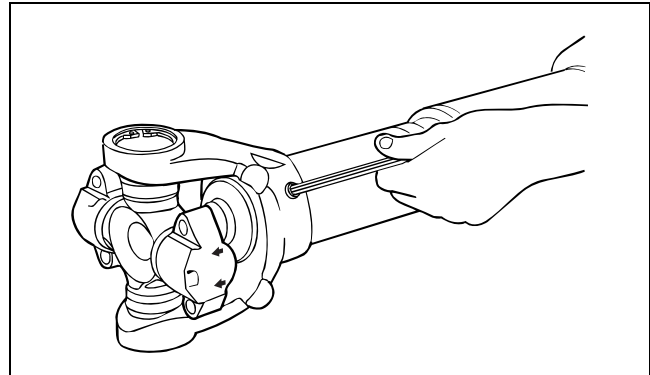

Figure 4.26
- Use an Allen wrench to reinstall the grease plug. Figure 4.26.